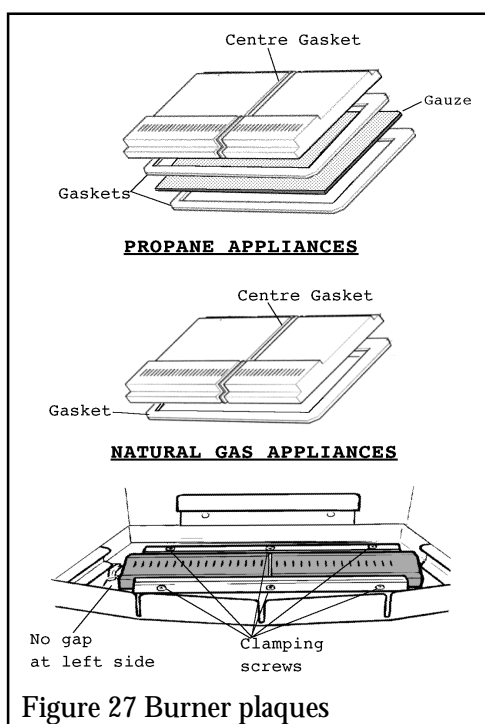

Figure 27 Burner plaques
13.1 To Replace Burner Plaques (See Figure 27)